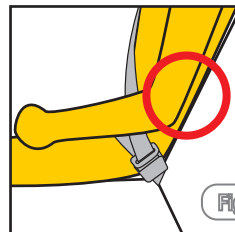

Figure 1
Step 1: Can the child sit with their back against the vehicle seat back? (refer Figure 1).
- Step 1:** Place the child restraint in the car, in a forward facing seating position (refer Figure 1).